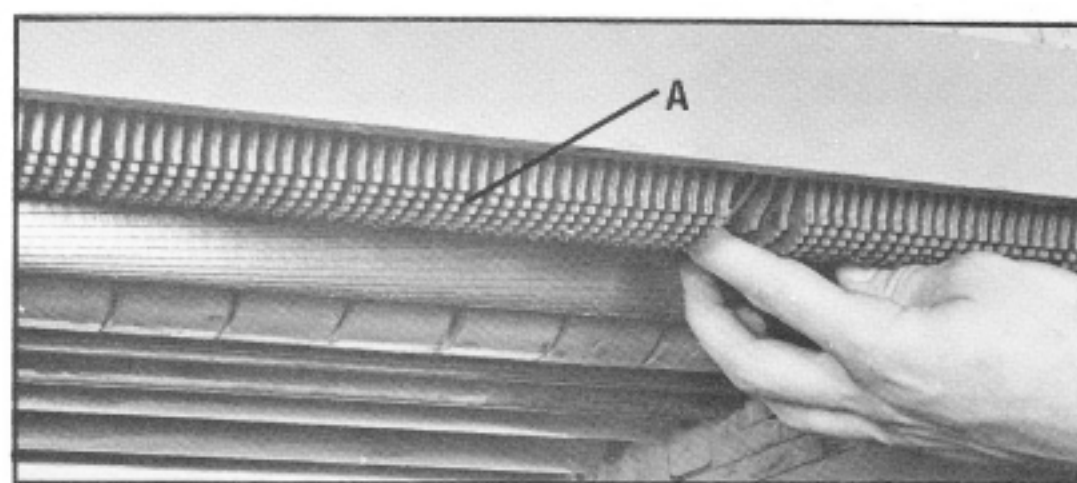

Fig. 17
Anti-kickback fingers (A) Fig. 17, are provided on your planer to prevent kickback. These fingers operate by gravity and it is necessary to inspect them occasionally as shown in Fig. 17, to make sure they are free of gum and pitch so they move independently and operate correctly.